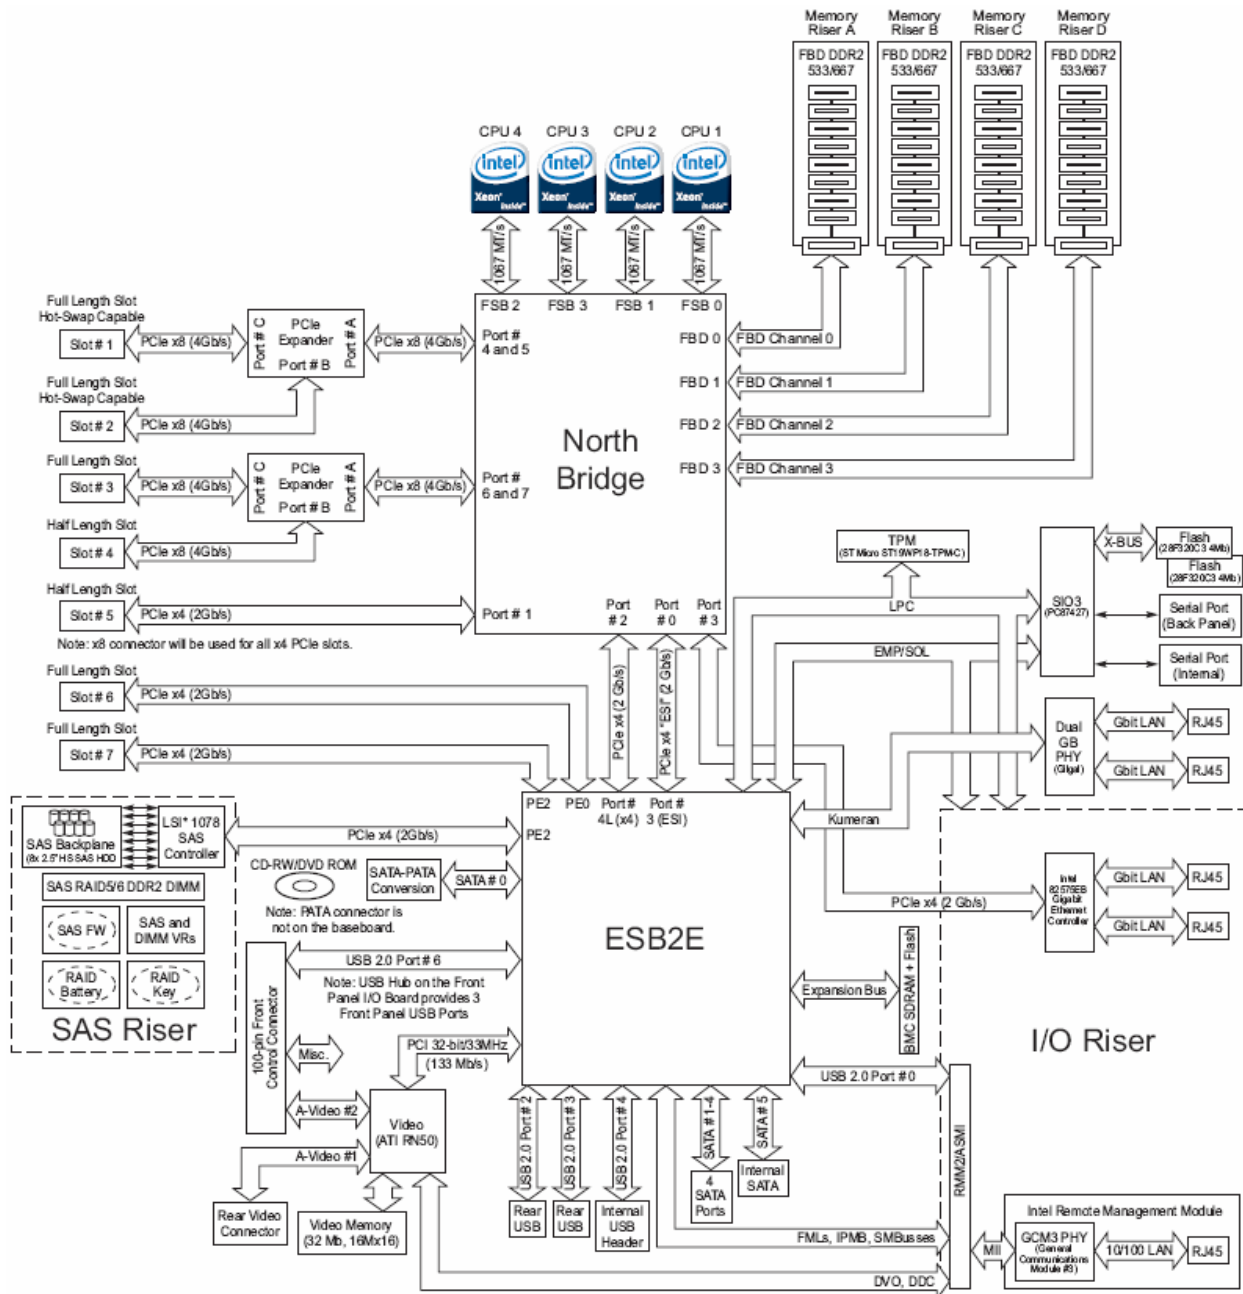

Figure 1. Main Board Block Diagram
- The main board utilizes four x4 ports and two x8 ports on the MCH. Figure 1 shows the assignment and further details are explained in *Chapter 2.2.4 PCI-Express* Subsystem*.